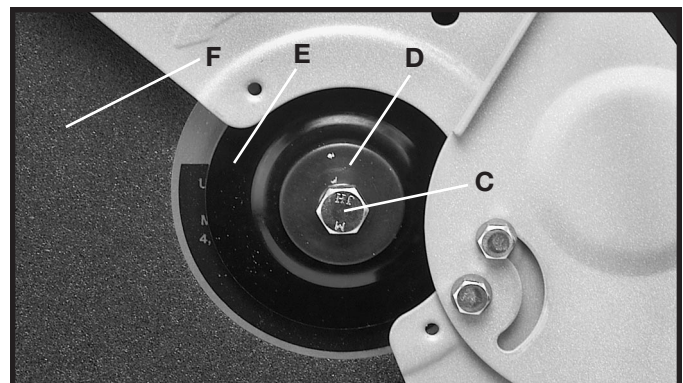

Fig. 23
3. Using the wrench provided, loosen arbor screw (C) Fig. 23, by turning it counterclockwise and remove arbor screw (C), washer (D), outside wheel flange (E) and wheel (F). **DO NOT REMOVE INSIDE WHEEL FLANGE.**
5. Install new wheel, outside wheel flange (E) Fig. 23, washer (D), and arbor screw (C). Turn arbor screw (C) clockwise to tighten.